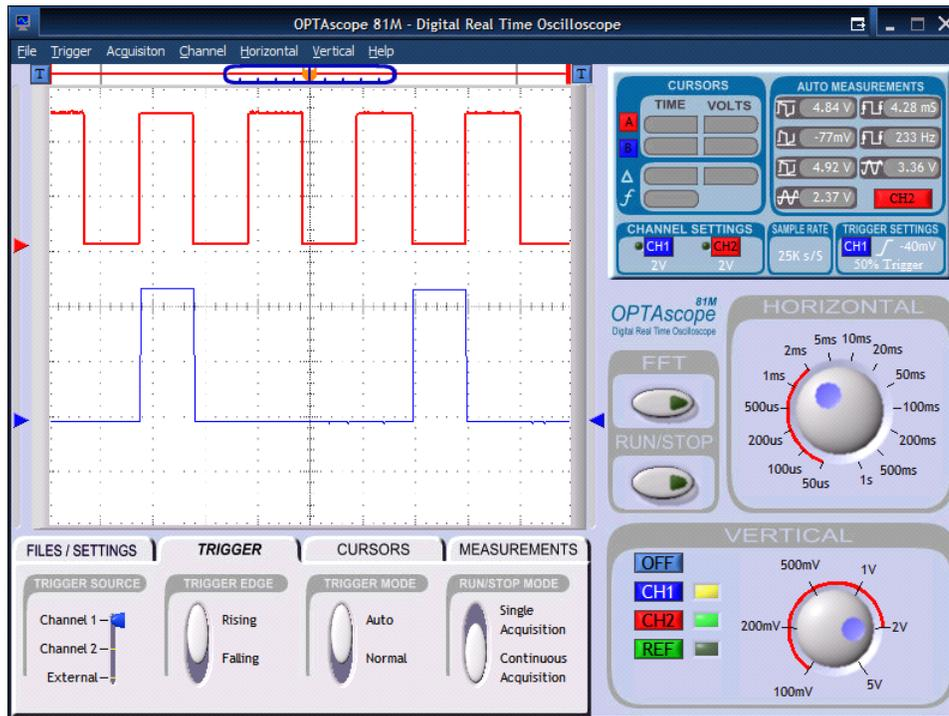

Figure 14-2: Two PWM Output Signals
1. Figure 14-2 is a view of two PWM outputs. What is the duty cycle of each expressed as a percentage? If the PWM generator uses 8 bits to express the duty cycle, what number is used to create each output?